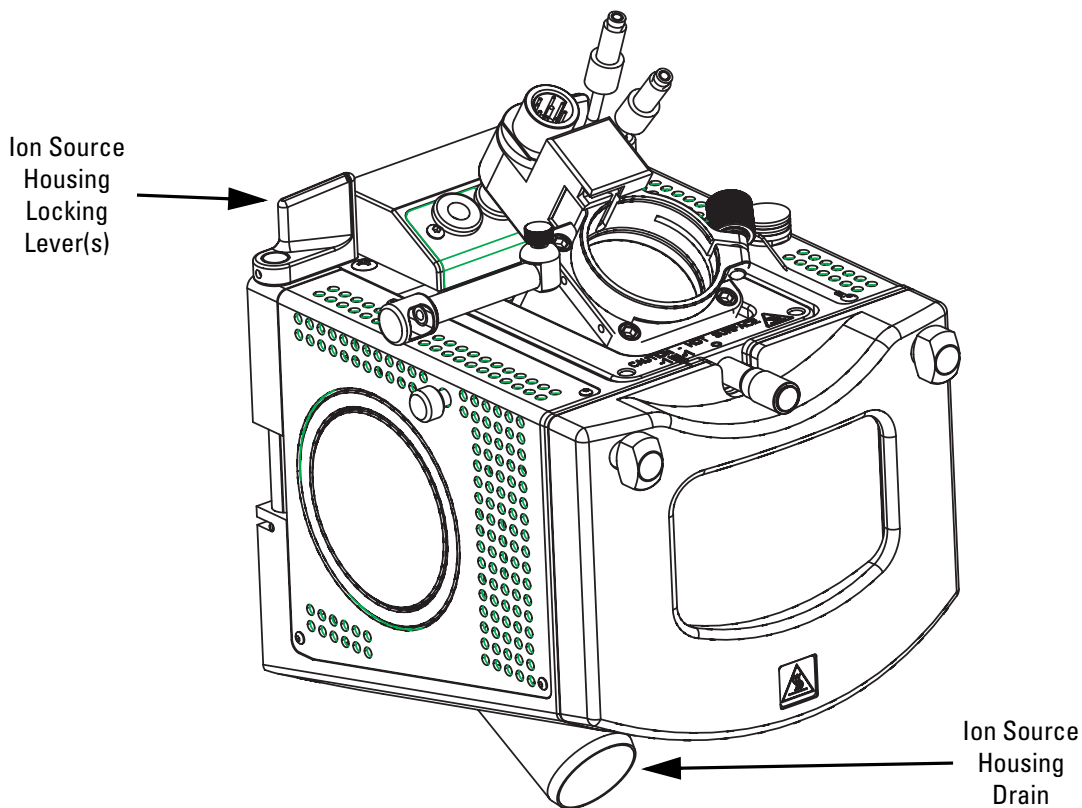

Figure 2-5. Ion Max, detail of components
1. Remove the drain tube from the ion source housing drain. See Figure 2-5.